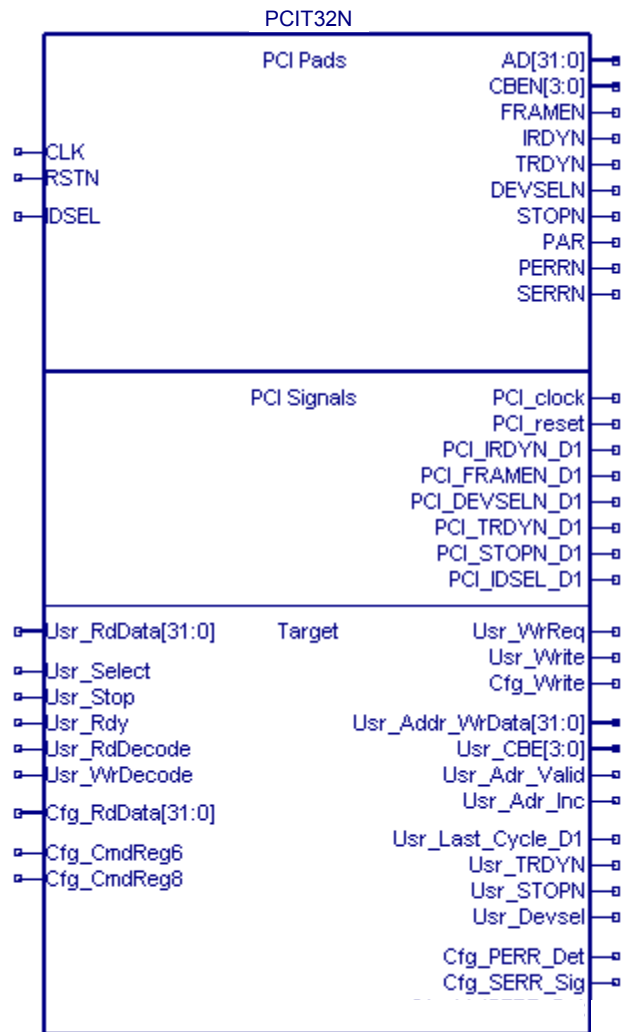

Figure 2: PCI Interface Symbol
**Figure 2** shows the interface symbol you will use in your schematic design to attach the local interface programmable logic design to the PCI core. If you were designing with a top-level Verilog® or VHDL file, then you would use a structural instantiation of this PCIT32N block, instead of a graphical symbol.